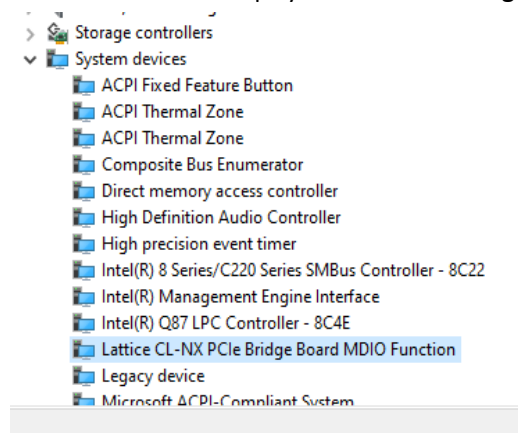

Figure 5.53. Multifunction Demo Device Name Displayed in Device Manager
- After the driver is installed, the device driver name is displayed in **Device Manager**, as shown in Figure 5.53.